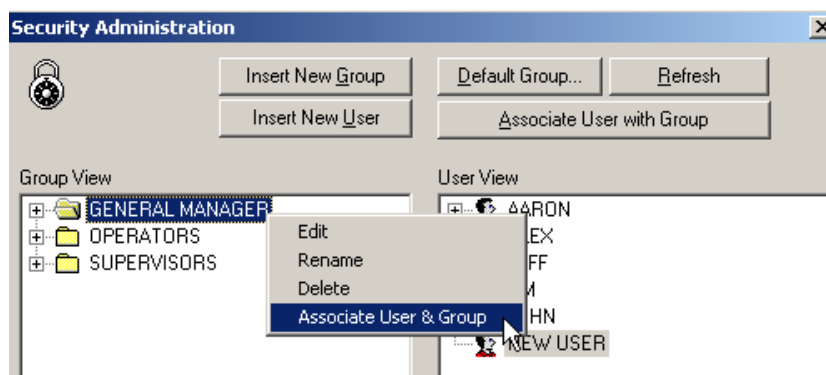

Figure 9.56. Associating Users and Groups
- Right-click the group to be associated under the **Group View** tree and select **Associate User & Group** from the pop-up menu (or click the **Associate User with Group** button), as shown in **Figure 9.56**.